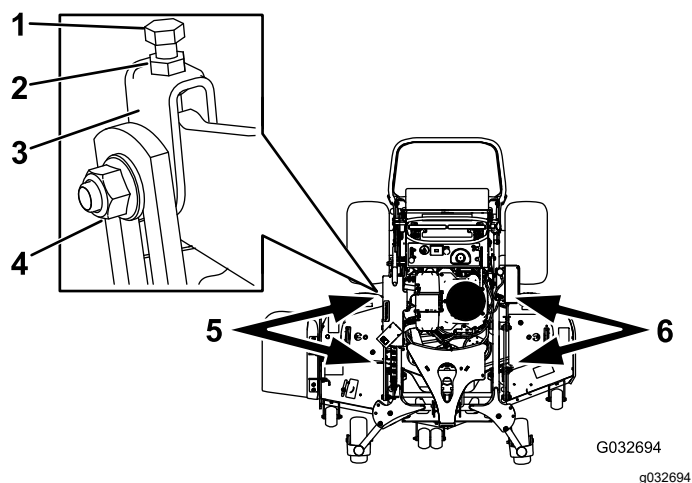

Figure 98
1. Loosen the side nut and jam nut in the yokes you want to adjust (Figure 98).
2. Rotate the top bolt of the yokes to adjust the height of the mower deck (Figure 98).